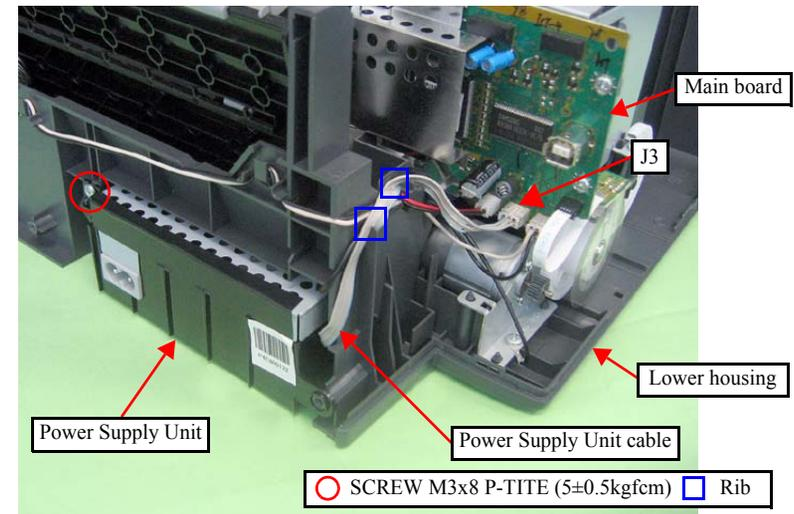

Figure 4-24. Removing the Power Supply Unit
- Route the Power Supply Unit Cable through the two ribs of the Lower Housing. (See Fig.4-24.)